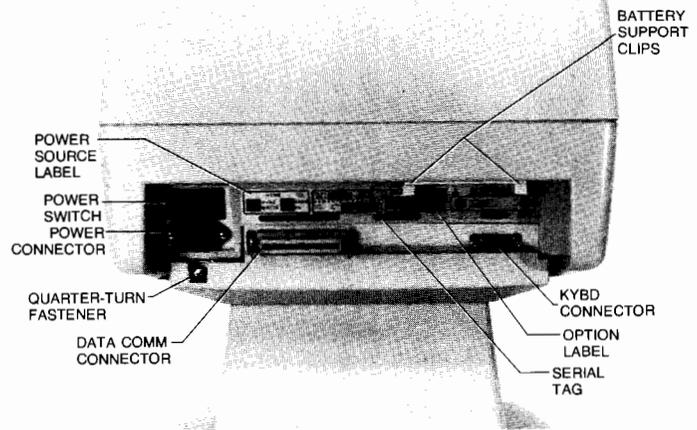

Figure 2-2. Terminal Rear View
1. Using a small Phillips-head screwdriver, loosen the quarter-turn fastener (figure 2-2) at the lower left rear of the terminal. Do not overturn the fastener more than a quarter-turn.
1. Check that the available power source matches the power source for which the power supply is designed, as marked on the power source and option labels at the rear of the terminal (figure 2-2).
6. Position the keyboard in front of the terminal and connect the keyboard cable to the KYBD connector at the lower right rear of the terminal (figure 2-2).